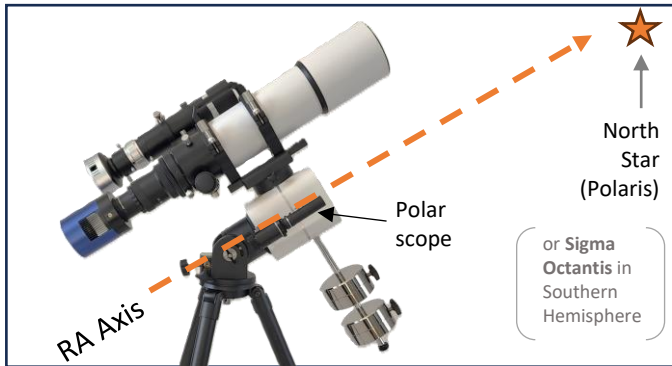

Fig. 4.14
- **Home Position:** Start with the mount in the Polar Home Position. See Fig. 4.14.